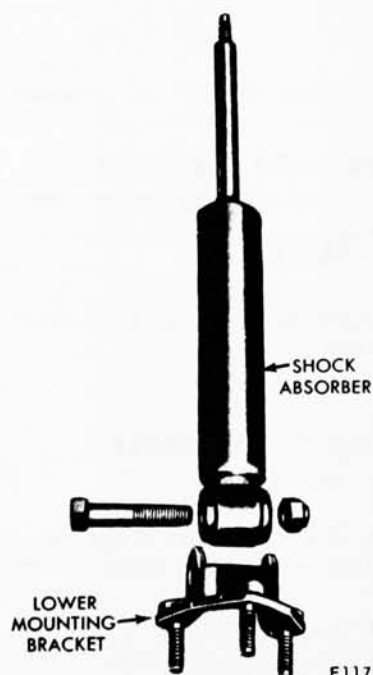

FIG. 5 — Front Shock Absorber and Mounting Bracket
3. Remove the attaching nut and bolt, and transfer the lower mounting bracket to the replacement shock absorber (Fig. 5).